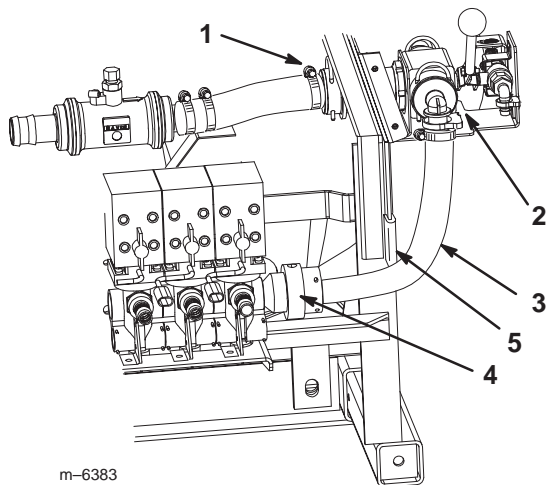

Figure 14
3. Connect the fitting you installed into the boom supply hose to the control valve assembly, securing it with the retainer you removed previously (Fig. 14).
10. Connect the fitting on the large hose on the control valve assembly to the fitting on the right side of the boom supply valves (Fig. 14).
11. Disconnect the large hose from the control valve and look inside the valve (Fig. 14). You should see an opening in the check ball curving up. If not, rotate the ball until the opening is fully visible and it curves up.
12. Connect the large hose to the control valve (Fig. 14).
13. Place the rubber trim piece over the frame edge to protect the hose (Fig. 14).